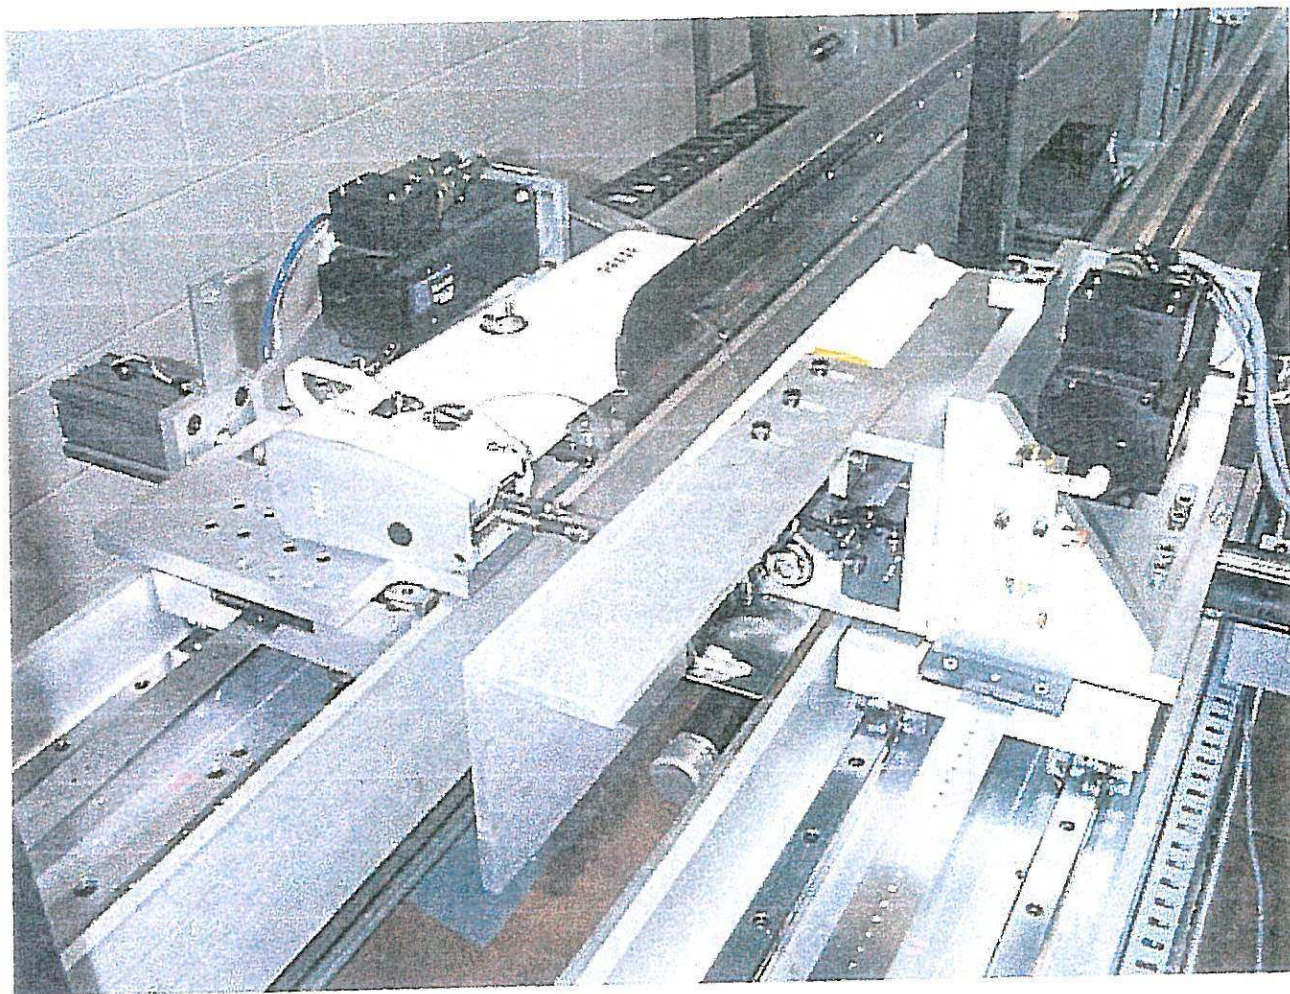
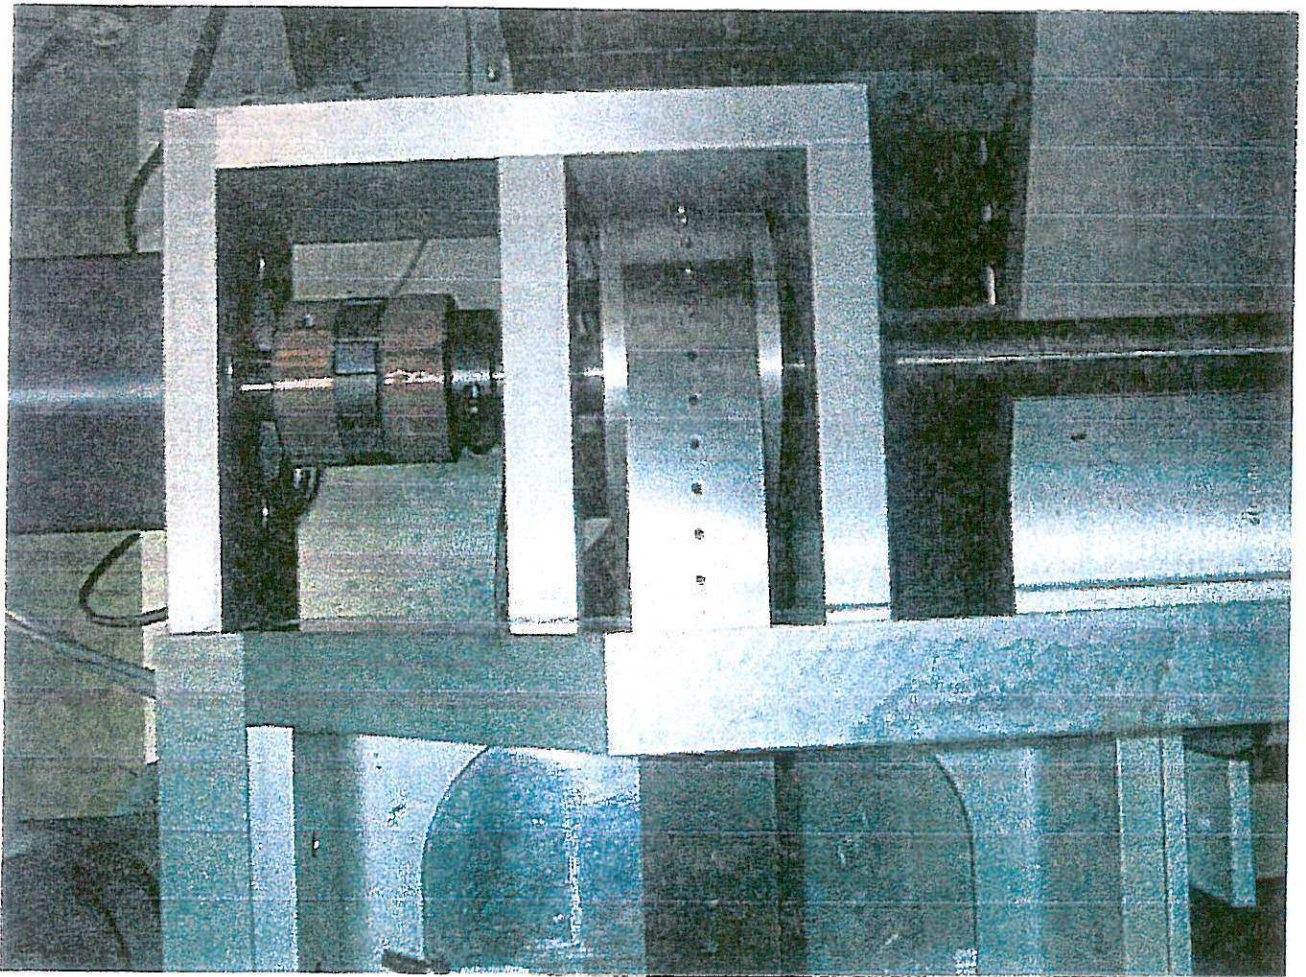
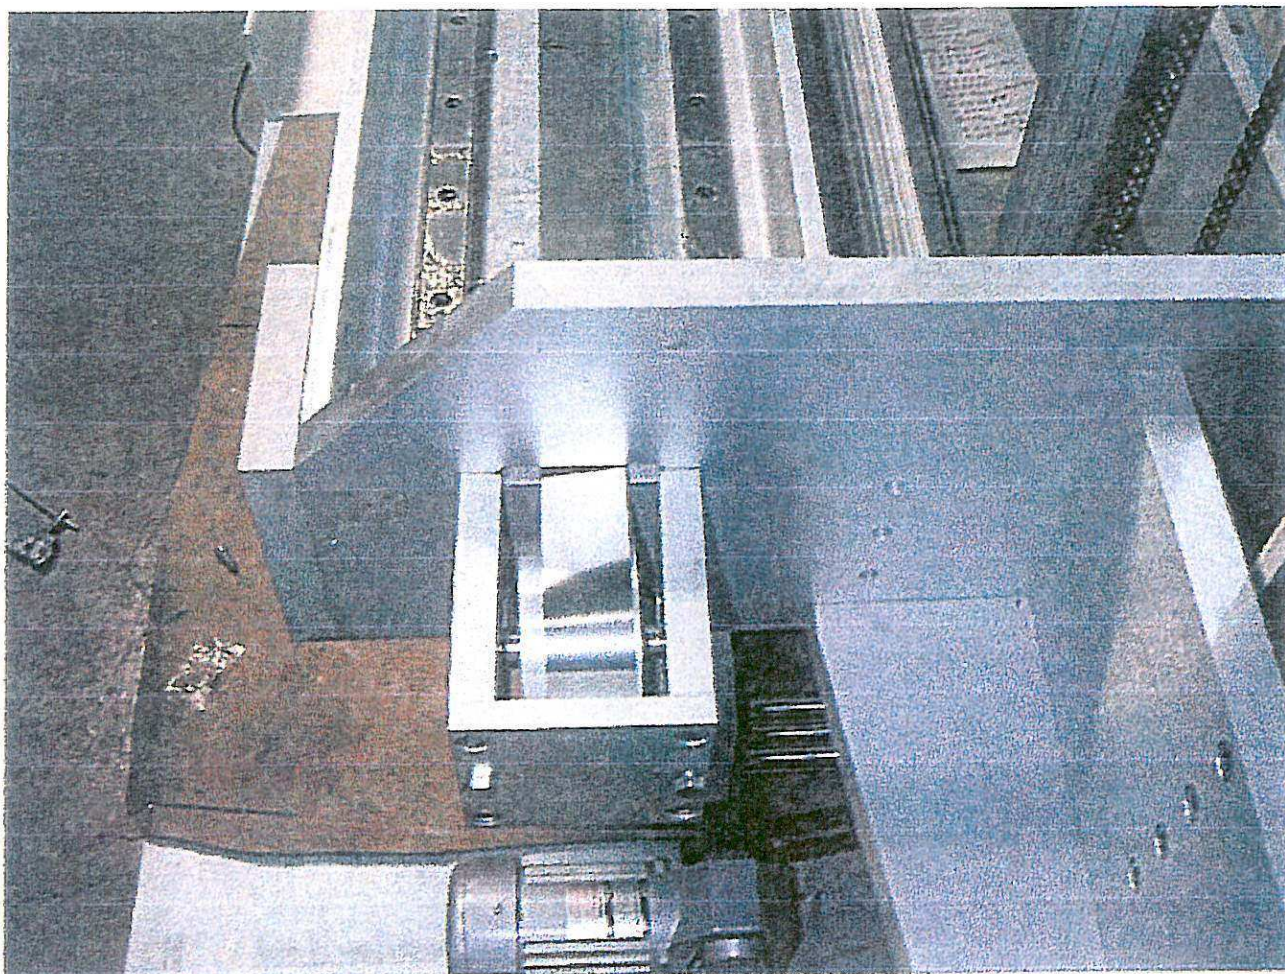
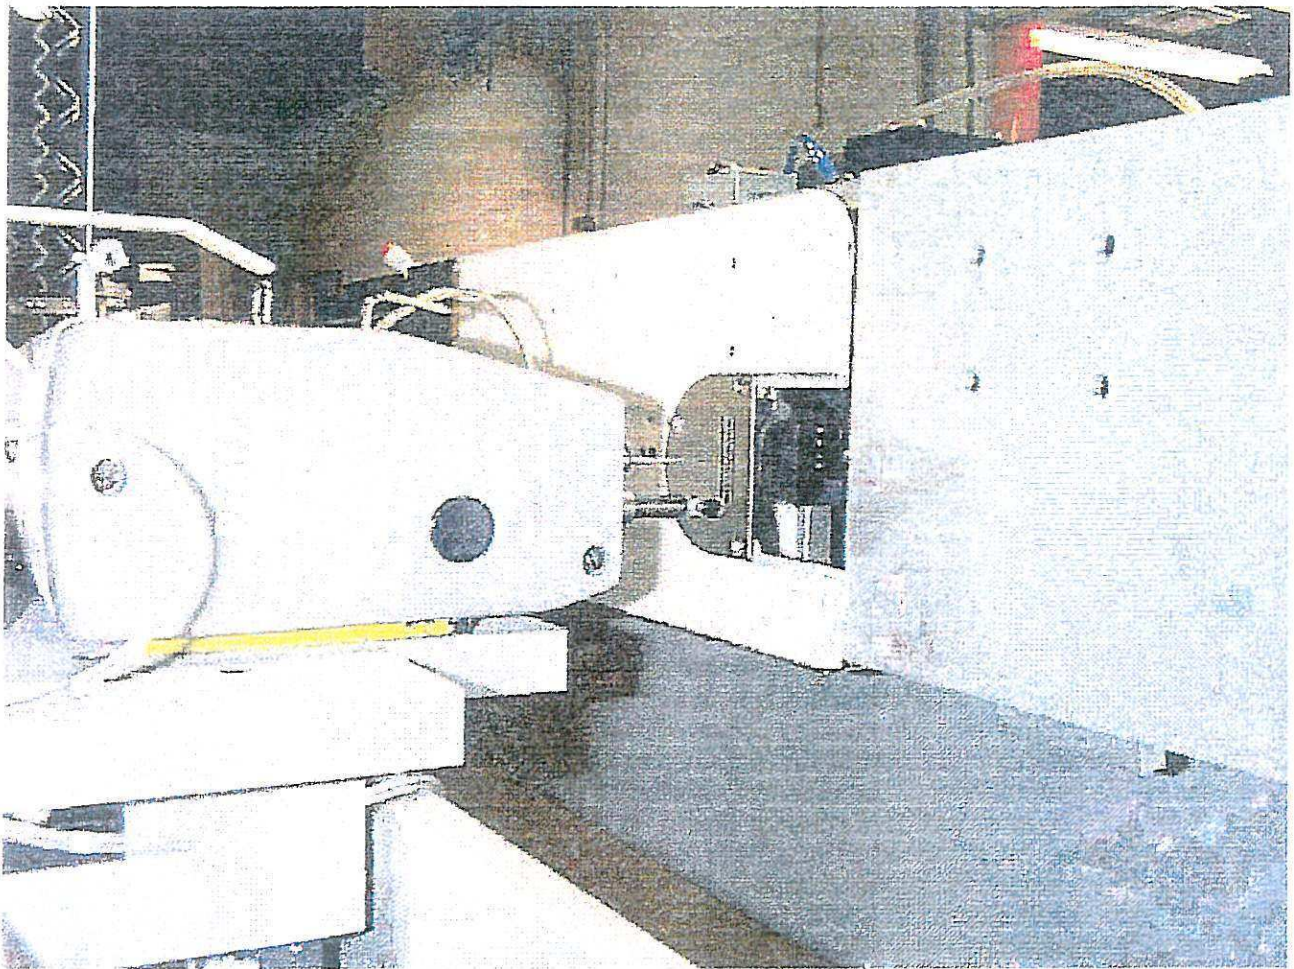

FIG. 7A
FIG. 7C
FIG. 7B
FIG. 7D
THE FOLLOWING PROCEDURE WILL INVOLVE ACCURATE TENSIONING AND ALIGNING OF STEEL TIMING BELTS. ON A COMMON DRIVE, THE UNIT LOAD LEVEL AND EQUAL TENSIONING BETWEEN TWO STEEL TIMING BELTS ARE THE MOST IMPORTANT VARIABLES WITH RESPECT TO MECHANICALLY SLAVING SEW HEAD ASSEMBLY TO SEW BASE ASSEMBLY, SEE FIG. 7A. THIS DESIGN ENSURES THE SYSTEM TO BE WITHIN ± 0.001 IN. DURING NORMAL ACCELERATION AND DECELERATION MOTION. FURTHERMORE, ANOTHER IMPORTANT VARIABLE IS ALIGNMENT OF CENTER LINE OF STEEL BELT TO IDLER PULLEY CENTER LINE, SEE FIG. 7B AND 7C. FOR TENSIONING LAYOUT, SEE FIG. 7D.
- 1- INSTALLING NEW STEEL BELT REQUIRES THE INSERTION OF THE PUNCHED HOLES SECTION OF BELT INTO RIGHT SIDE OF SEW HEAD ASSEMBLY. MAKE USE OF TWO 1/4-20 x 3/4 SHCS AND ONE 6-32 x 1/2 SHCS TO COUPLE BELT TO SADDLE PLATE. SEE FIG. 7A.
- 2- FEED THE STEEL BELT OVER THE DRIVE PULLEY IN BETWEEN THE SLOTS MACHINED ON THE SIDE PLATES. ENSURE THAT THE BELT IS FED THROUGH THE TOP SLOT FIRST, THEN OVER THE TOOTHED PULLEY; FINALLY, THROUGH BOTTOM SLOT. THEN FEED THE BELT THROUGH OTHER END BOTTOM SLOT, OVER THE IDLER PULLEY AND THROUGH TOP SLOT. INSERT THE NON-HOLE PUNCHED END INTO LEFT HAND SIDE OF SEW HEAD ASSEMBLY. SEE FIG. 7B AND 7C. NOTE THAT BOTH STEEL BELTS HAVE AN ARROW MARK ON THEM. THESE ARROWS MUST POINT TO SAME DIRECTION. THE TWO SIDES OF A STEEL BELT ARE NOT EQUAL IN LENGTH DUE TO HAVING A PROFILE OF A CONE AND NOT A PERFECT CYLINDER.
3- BEFORE PERFORMING STEP #2, ENSURE THAT THE IDLER PULLEY'S TWO 5/16-18 HEX HEAD BOLTS ARE COMPLETELY LOOSE. THESE BOLTS ARE DESIGNED FOR TENSIONING THE SYSTEM. ALSO, MAKE SURE THAT BELT CENTER IS IN LINE WITH IDLER PULLEY CENTER. SEE FIG. 7B.
5- AT THIS POINT, ENSURE THAT SEW HEAD ASSEMBLY IS IN LINE WITH SEW BASE ASSEMBLY. THE NEEDLE MUST BE IN THE CENTER OF ALIGNING PLATE HOLE, SEE FIG. 7D. SINCE THE TIMING BELTS ARE LOOSE, CHOOSE ONE OF THE ASSEMBLIES TO MOVE. THE TIMING BELT HOLES SHOULD SKIP OVER THE DRIVE PULLEY TEETH. SEE FIG. 7C.